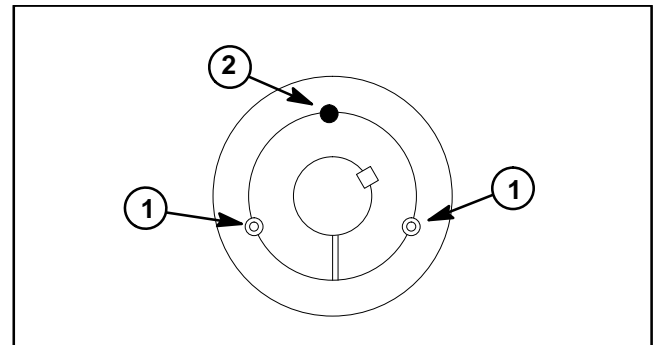

Figure 16
6. Remove four (4) cap screws (item 10) and lock washers (item 11) that secure gearbox assembly to gearbox brackets.
7. Remove fasteners that secure left side gearbox bracket (item 3) to deck mounting plate. Remove bracket from deck.
9. Remove two (2) set screws that secure taper-lock bushing to drive pulley on gearbox shaft.
10. Thread one of the removed set screws into threaded hole of bushing (Fig. 16). Tighten set screw to loosen bushing from pulley hub.
3. Lightly oil threads of set screws and install screws into threads of pulley (Fig. 16). Alternately and evenly tighten set screws to a torque from **180 to 250 in-lb (20 to 28 N-m)**.
6. Position and secure left side gearbox bracket (item 3) to deck mounting plate.
7. Secure gearbox assembly to gearbox brackets with four (4) cap screws (item 10) and lock washers (item 11).